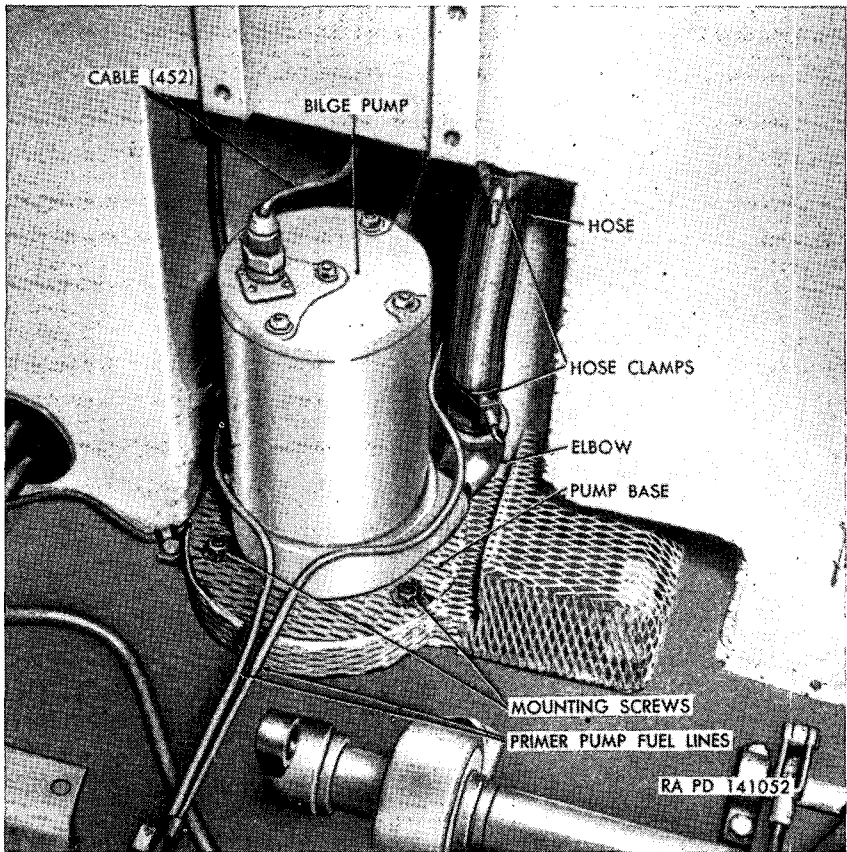

Figure 334. Front bilge pump—installed view.
a. **FRONT BILGE PUMP** (fig. 334).
- (1) *Removal.* Remove ammunition stowage boxes and ration box (par. 265). Remove primer line clips and spread lines apart. Unscrew cable connector nut from bilge pump. Loosen hose clamp and pry hose off elbow. Remove three mounting screws from bilge pump base and lift bilge pump out of vehicle. Disconnect fittings from bilge pump.
- (2) *Service.* To clean the bilge pump strainer, remove the four screws securing strainer to pump base and remove any foreign material which may be clogging the pump.
- (3) *Installation* (fig. 334). Install fittings on bilge pump outlet. Install three mounting screws which secure bilge pump base to hull floor. Connect hose clamp to secure outlet line to pump fittings. Connect electrical cable to pump. Bend primer lines back into shape and secure them with the clip. Install ration box and ammunition stowage boxes (par. 265).
a. **BILGE PUMPS** (figs. 334 and 335). The positive feed cable of each bilge pump motor is bypassed to the pump motor frame by means of a 0.01-mfd, 100-volt capacitor.